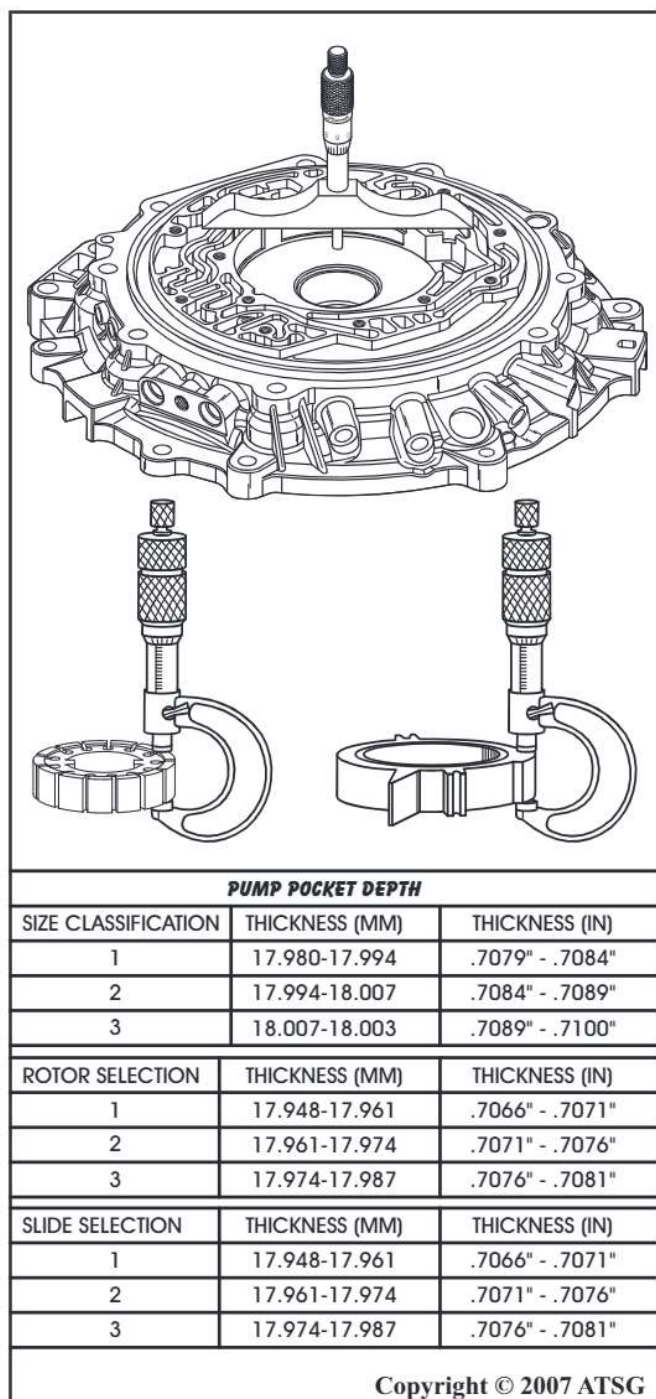

Figure 66
23. If replacements are needed, use the chart in Figure 66 to make your selections based on the clearance recorded and the thickness of the current slide and rotor.